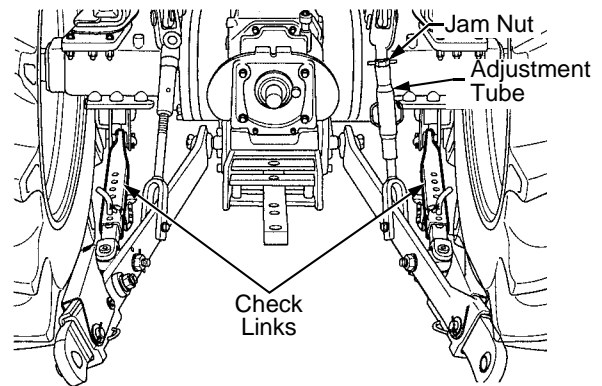

Figure 37
- Loosen the jam nut on the right lift rod and adjust its length as necessary to level the two lower links by turning the adjustment tube. Re-tighten the jam nut. See Figure 37.
Adjust the length of the check links to limit, or increase, the side to side movement of the lower links as suggested in the implement owner's manual. Refer to Figure 37.